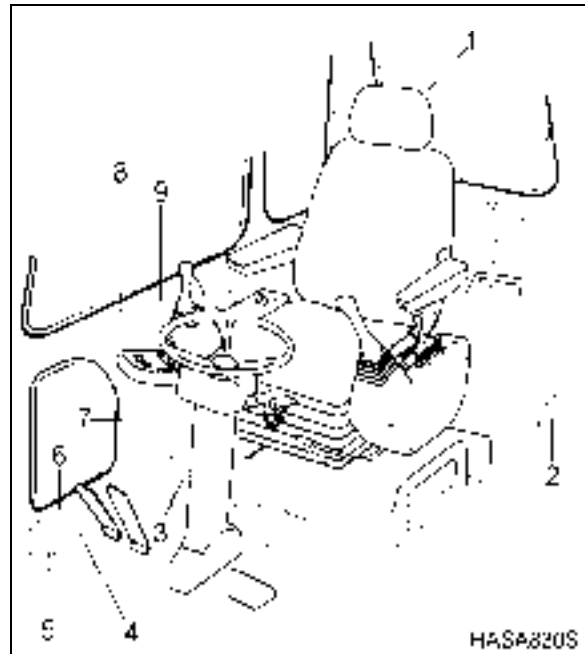

Figure 2
9. Remove operator's seat (1, Figure 2).
10. Remove duct covers (5, 6, 7 and 9, Figure 2). When removing duct cover (7), disconnect hour meter connector.
11. Remove air duct (3, 4 and 8, Figure 2) located at right side of cab. Disconnect duct wiring connector before removing air duct (3).
16. Disconnect cabin ground cable (2, Figure 2).
7. Connect cabin ground cable (2, Figure 2).
14. Install air duct (3, 4 and 8, Figure 2)
15. Connect hour meter connector and install duct covers (5, 6, 7 and 9, Figure 2).
16. Install operator's seat (1, Figure 2).